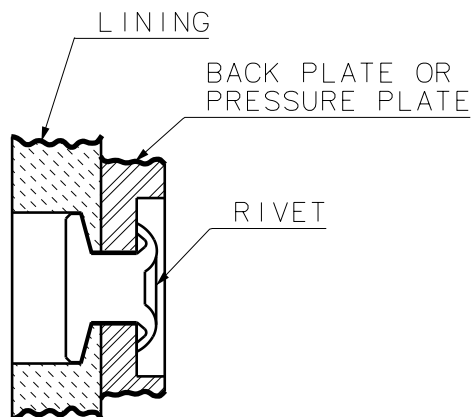

Figure 202 - Rivet Installation, Organic Lining
- 7 On design so equipped, install the center retention rivet as shown in Figure 202.
The organic brake lining is identified by its semi hard composition and rivets used to attach the lining to the pressure plate or back plate. The rivet holes are visible on the lining. Non asbestos, lead free lining material is also being used as a replacement for the old style organic lining and is removed and installed in the same manner as the organic lining. Ref. Figure 202. Appendix C provides a brake assembly / lining cross-reference information.